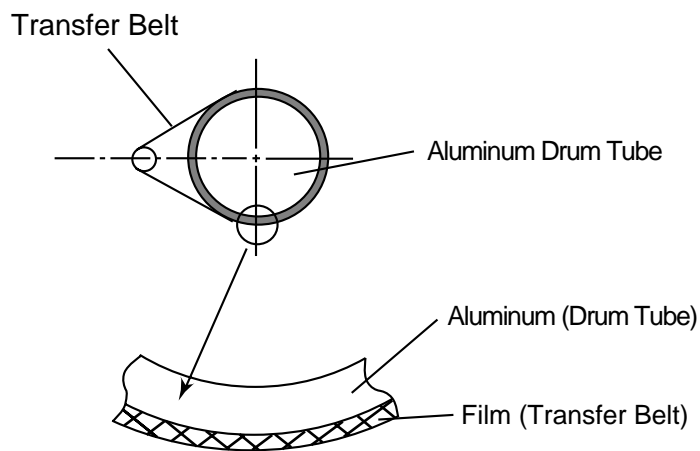

Fig.4-17
- iii) The belt composed of the special film is provided to the drum surface as shown in Fig.4-17.